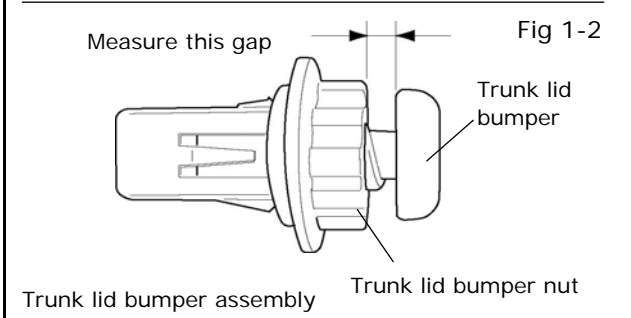

Fig 1-2
- 2) Use a small ruler to measure the gap between the bottom of the trunk lid bumper and the top of the trunk lid bumper nut (RH/LH: 1 location each). See Fig.1-2.